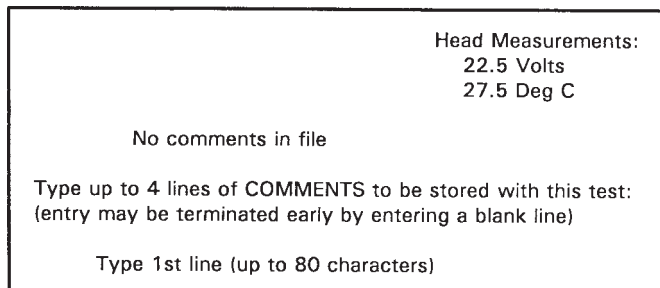

FIG. 9 File Comments
13.7.4.2 *Enter File Comments*—As soon as the printer starts operating, the screen will change, allowing the operator to enter comments into the test file (see Fig. 9).